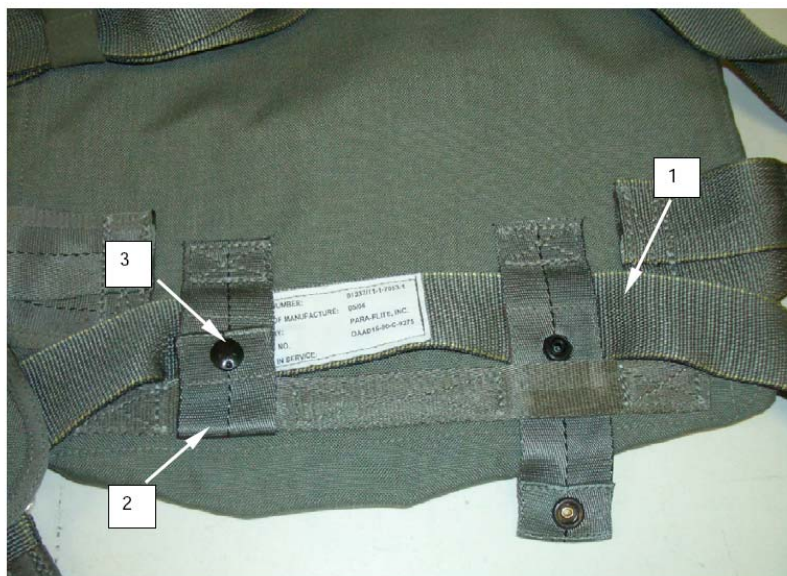

Figure 52. Secure the Horizontal Back Strap onto the Main Pack Tray.
3. Secure the horizontal back strap (Figure 52, Item 1) by routing both pack tray horizontal back strap retainers (Figure 52, Item 2) over the horizontal back strap (Figure 52, Item 1) and under the horizontal back strap keepers and secure the snap fasteners (Figure 52, Item 3).